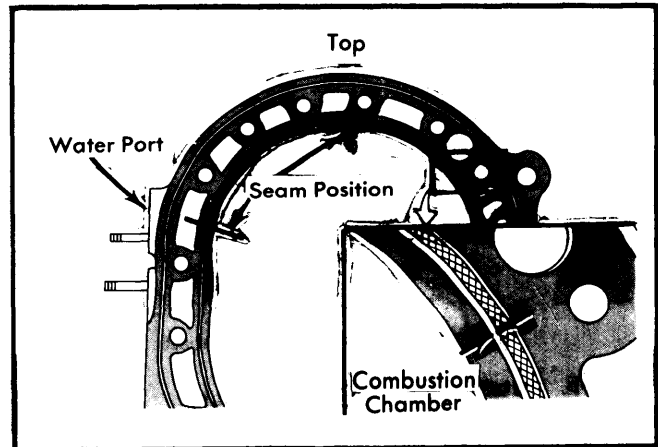

Fig. 22 Positioning Inner Sealing Rubber
**NOTE** - Inner sealing rubber is square type. The wider white line of sealing rubber should face toward combustion chamber and seam of rubber should be placed as shown in Fig. 22. Do not stretch sealing rubbers.